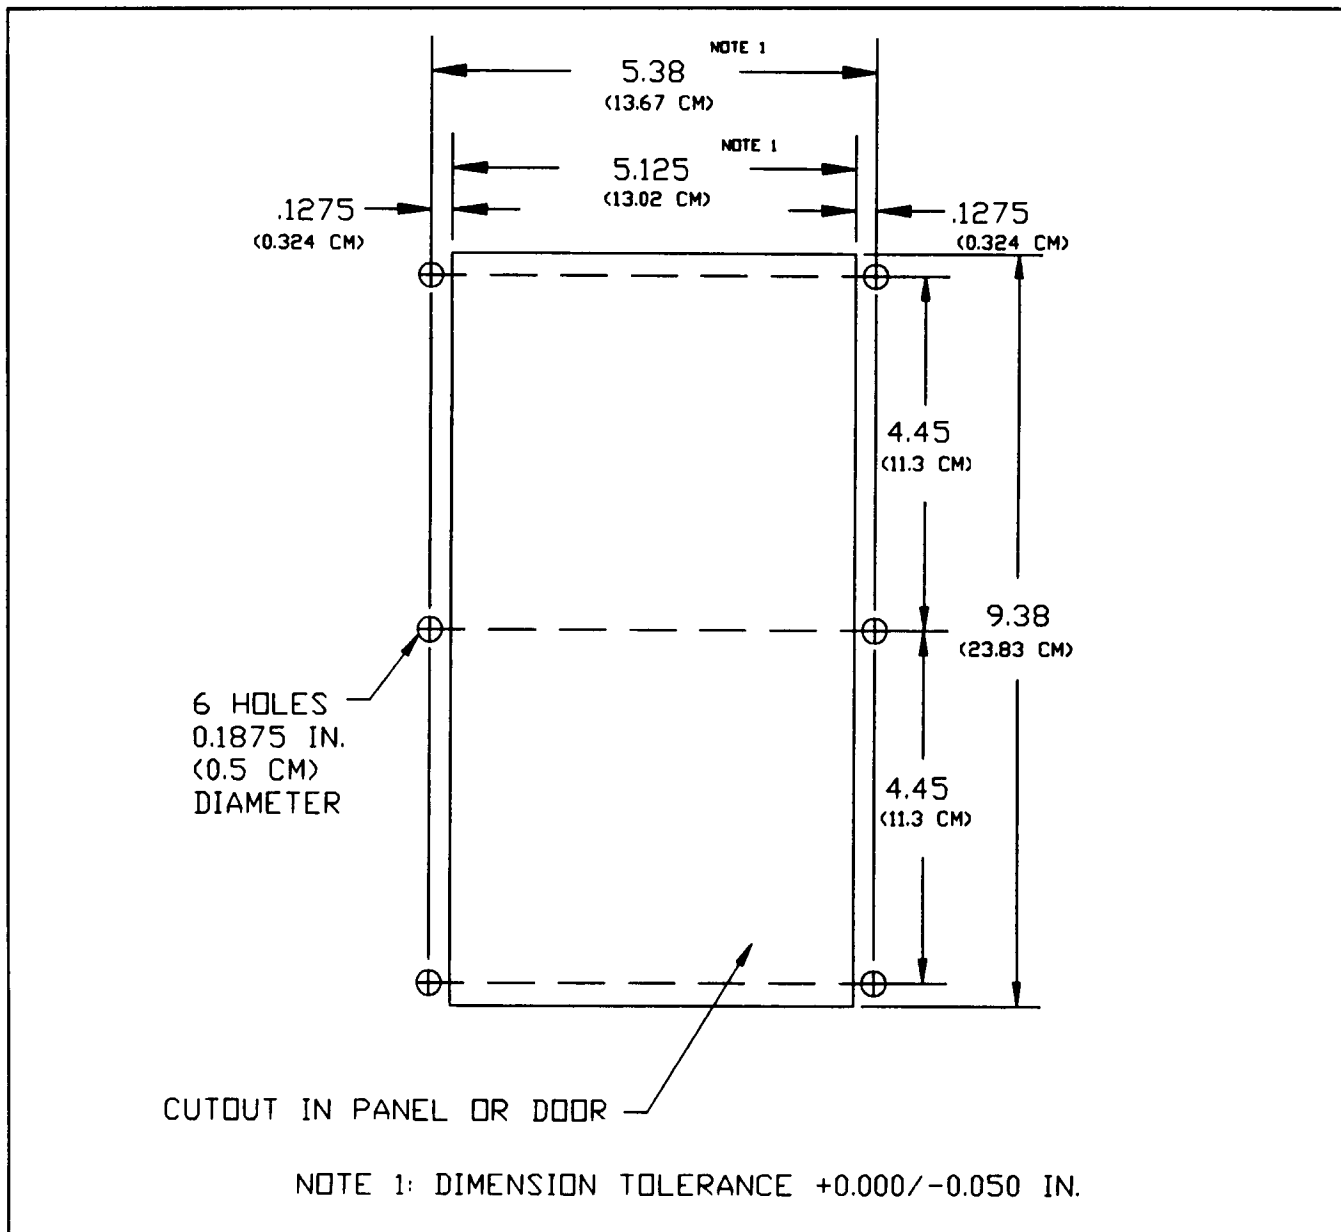
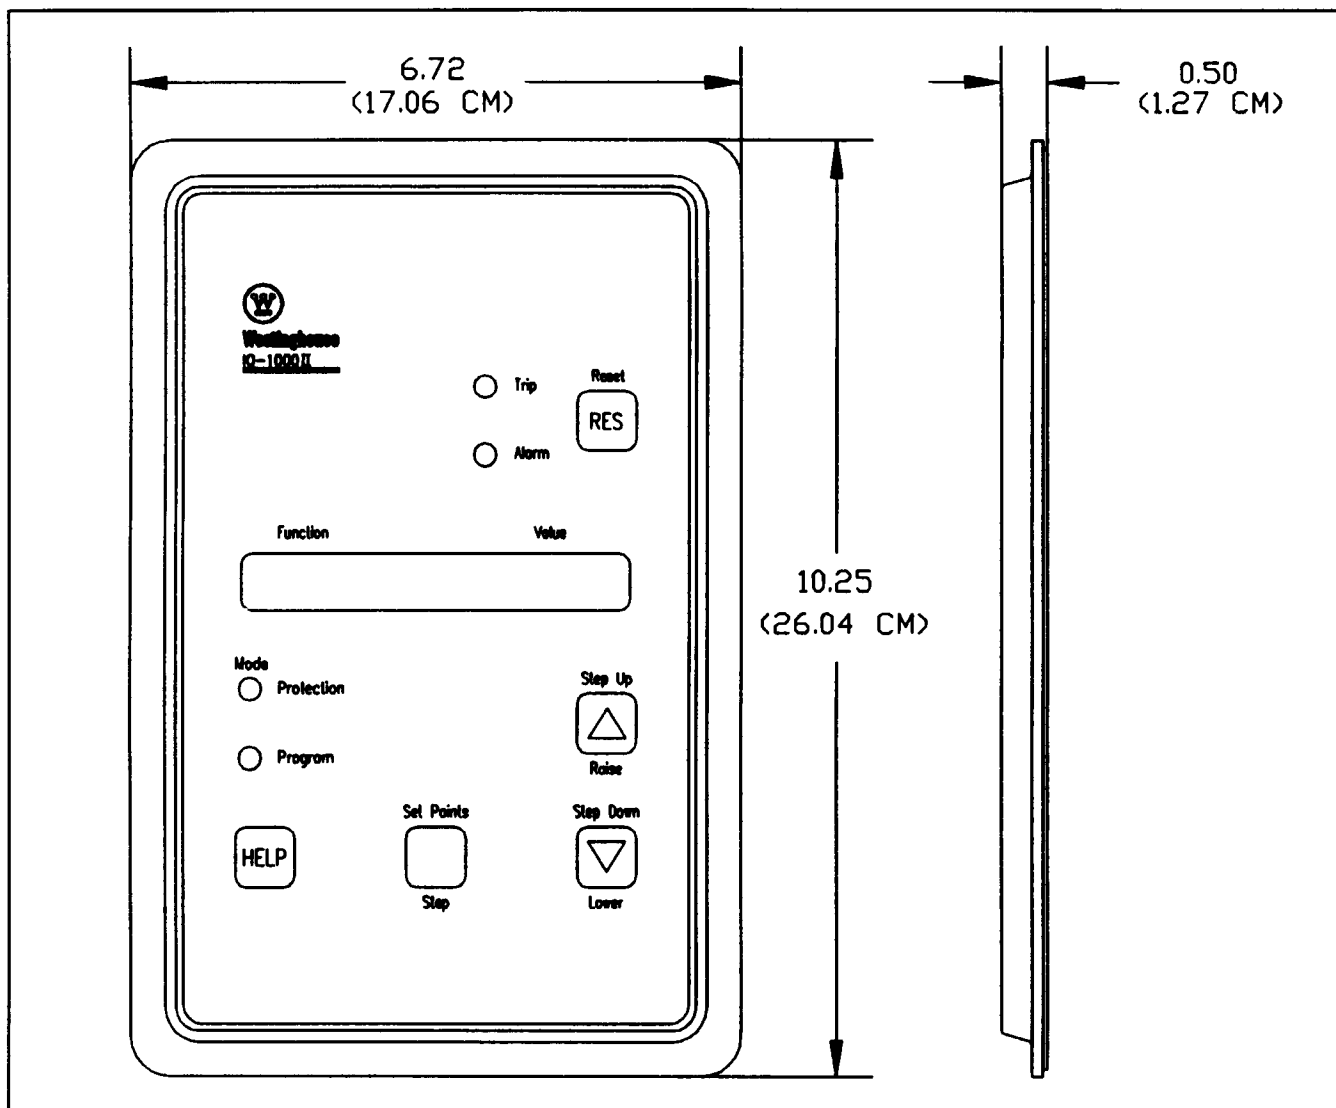
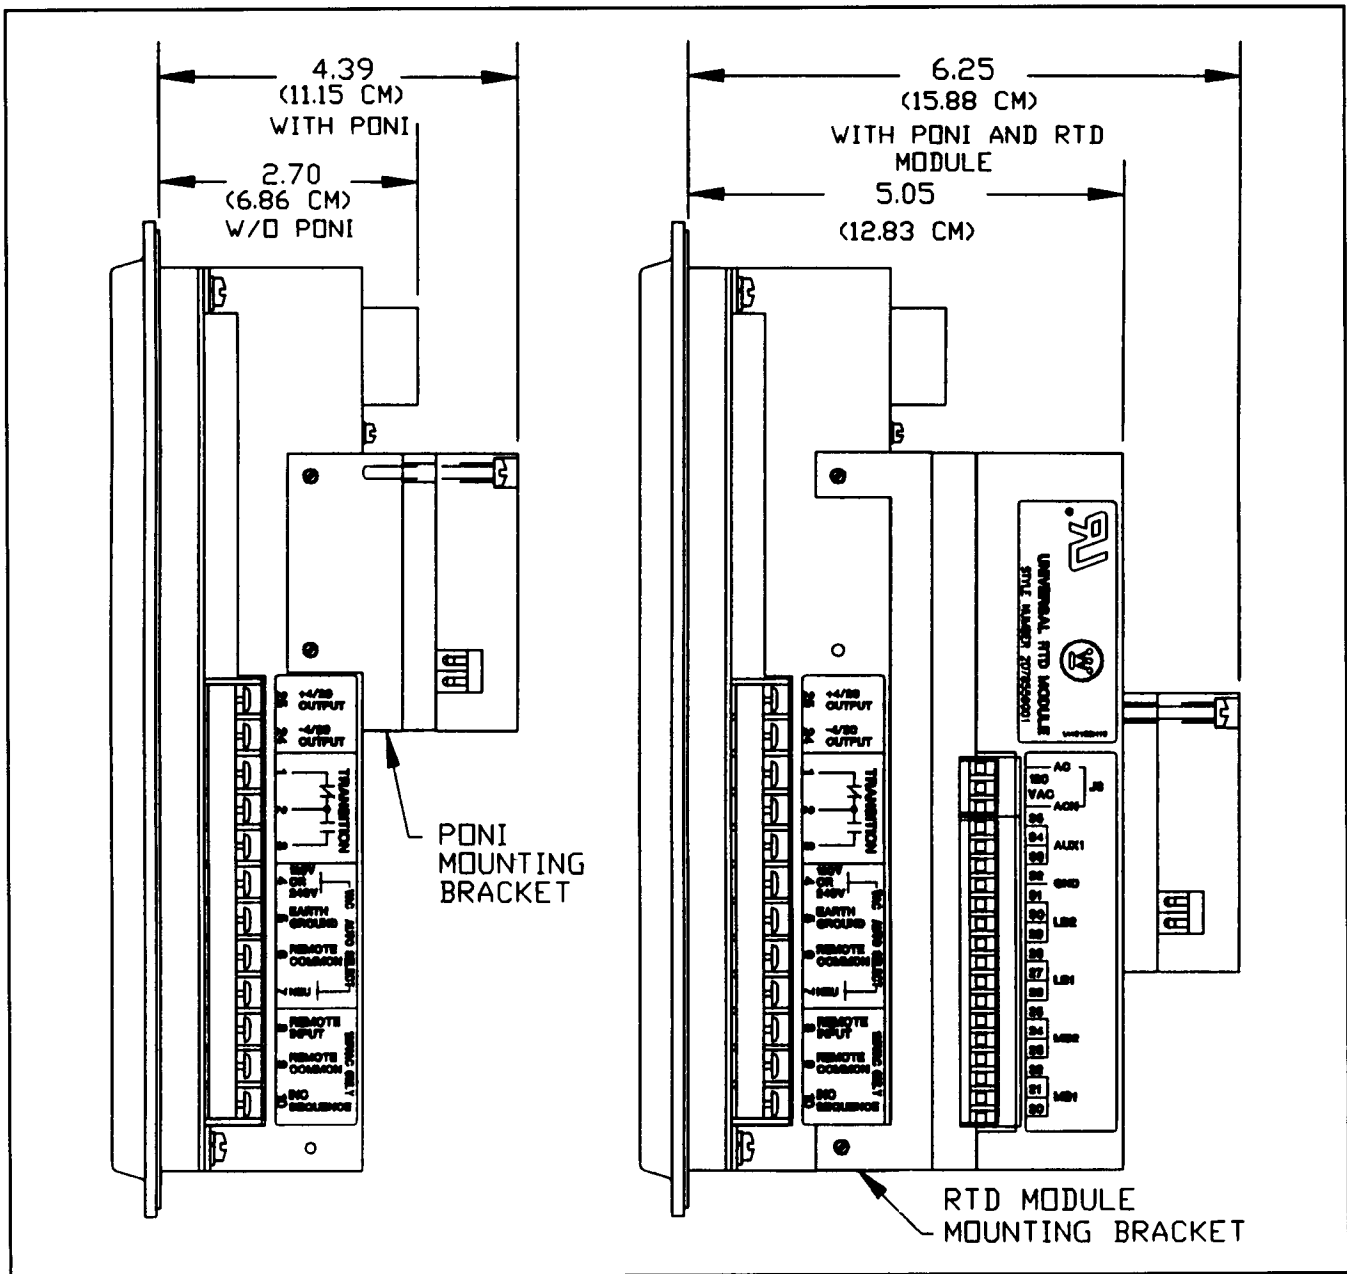

Figure 5.1 — IQ-1000 II Chassis Cutout Dimensions
Figure 5.2 — IQ-1000 II Faceplate Dimensions
Figure 5.3 — IQ-1000 II Chassis Depth Clearances
enclosure door. The dimensions for this cutout, along with the location of six required mounting holes, are shown in Figure 5.1. Before actually cutting the metal panel, be sure that the required three-dimensional clearances for the IQ-1000 II chassis allow mounting in the desired location. (Clearances are shown in Figure 5.2 and Figure 5.3).
The RTD Module may be mounted either on the back of the IQ-1000 II by using the RTD mounting bracket (supplied with the RTD Module) or mounted remotely from the unit. If the installation requires mounting the RTD Module to the IQ-1000 II, see Figure 5.3 for overall depth clearance requirements.
**5.1.3 Communications Option** — A Communications Module (PONI card) can be connected to the IQ-1000 II for transmission of all information from the device over an IMPACC network. A PONI mounted on an IQ-1000 II can be seen in Figure 5.3. Mounting and clearance information for the PONI card is contained in a separate Instruction Leaflet, IL 17361.